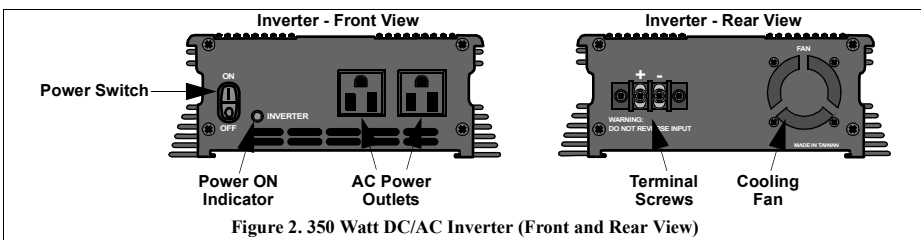

Figure 2. 350 Watt DC/AC Inverter (Front and Rear View)
- Place the ON/OFF switch (Figure 2) on the inverter to the ON position. The green light emitting diode (LED) located next to the ON/OFF switch will illuminate, indicating that the inverter is receiving DC power from the vehicle battery.